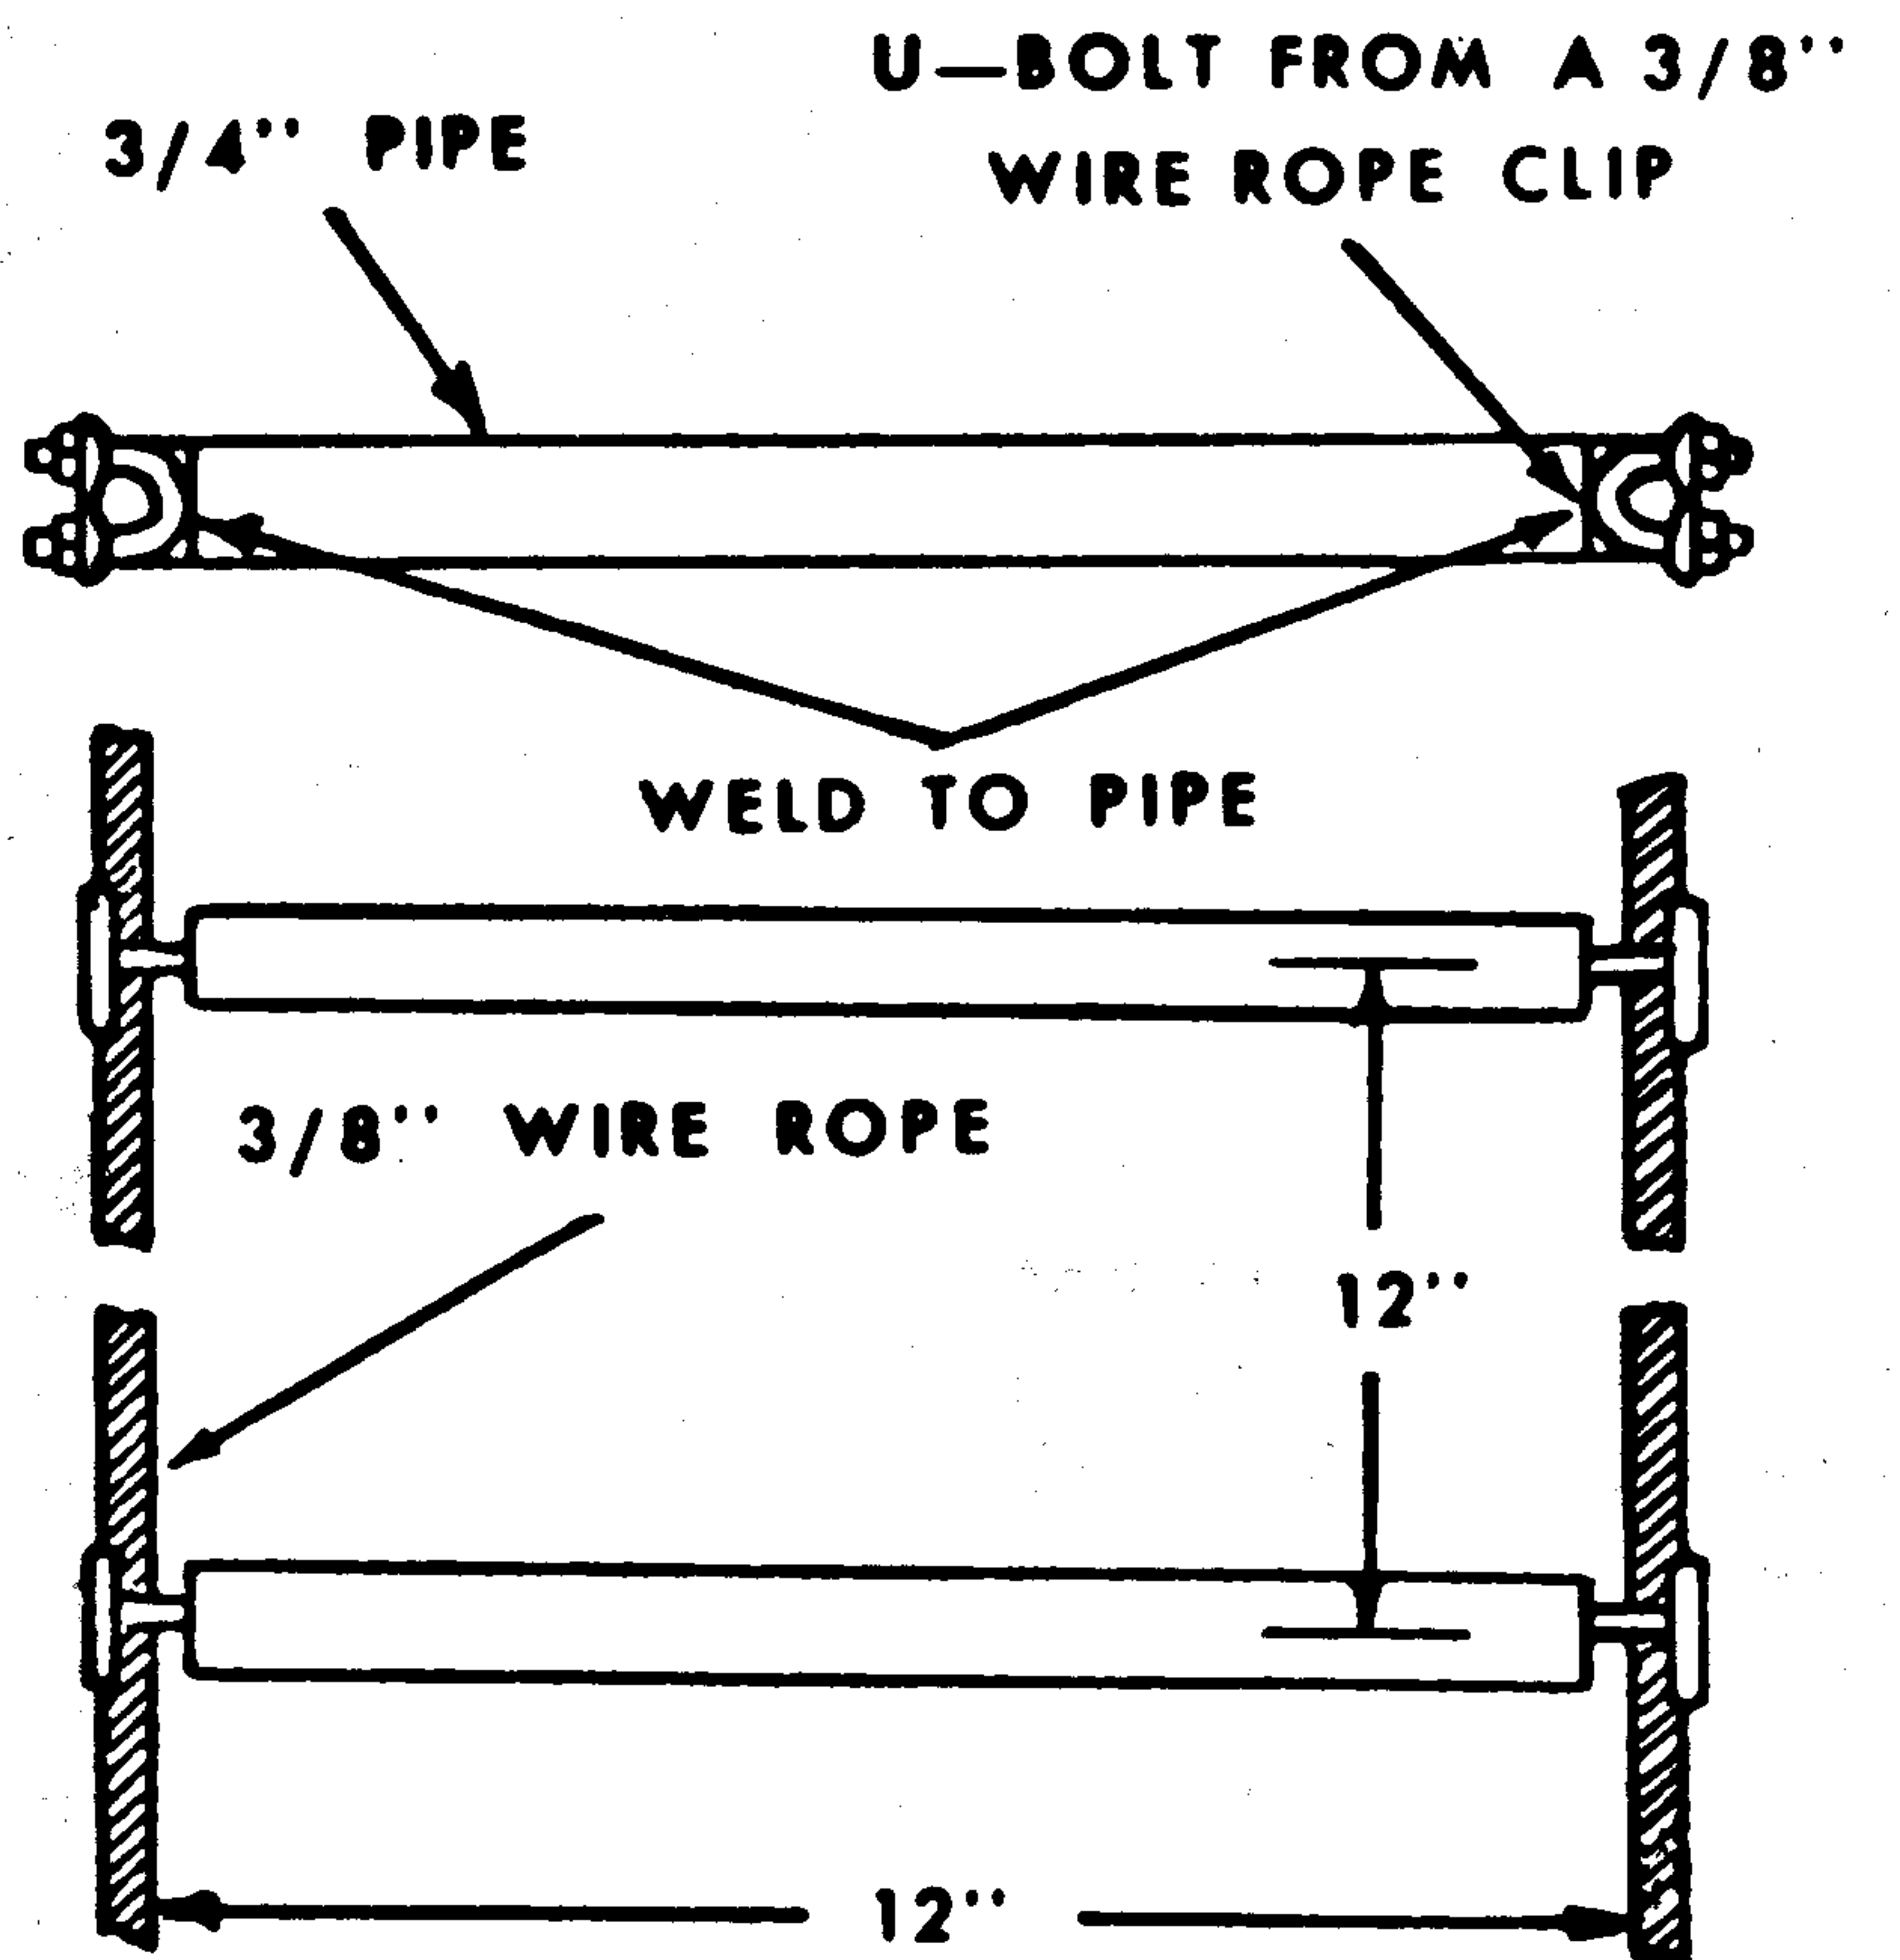

Figure 2-57. Pipe rungs.
a. Wire Rope Ladder With Pipe Rungs. A wire rope ladder can be made using either 1-inch or $\frac{3}{4}$ -inch pipe rungs. The 1-inch pipe rungs are more satisfactory. For such ladders the standard pipe stanchion is used. The pipe stanchions are spaced 12 inches apart in the ladder (fig. 2-57) and the $\frac{3}{4}$ -inch wire rope clips are inserted in the stanchion over $\frac{3}{4}$ -inch wire rope uprights. If $\frac{3}{8}$ -inch wire rope uprights are used, $\frac{3}{8}$ -inch wire rope clips are inserted in the pipe over the wire rope uprights. When $\frac{3}{4}$ -inch pipe rungs are used, the rungs are also spaced 12 inches apart in the ladder but uprights should not be spaced more than